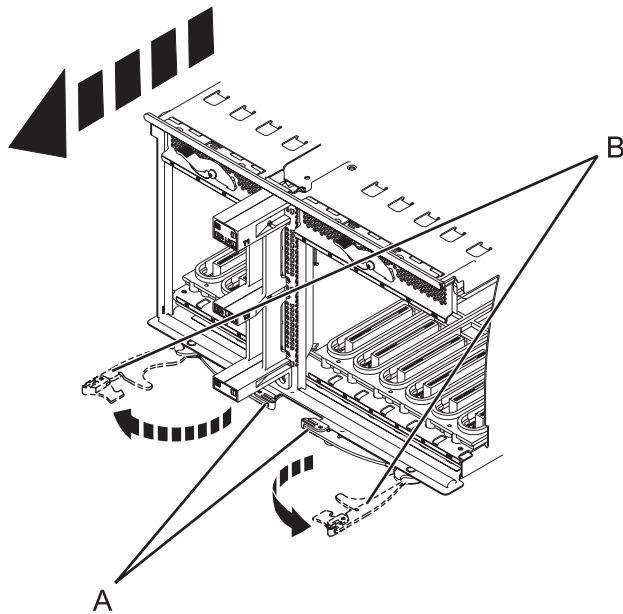

Figure 101. Removing the I/O system board
12. Squeeze the release latches (**A**) and pull the levers (**B**) out away from the system, as shown in Figure 101.